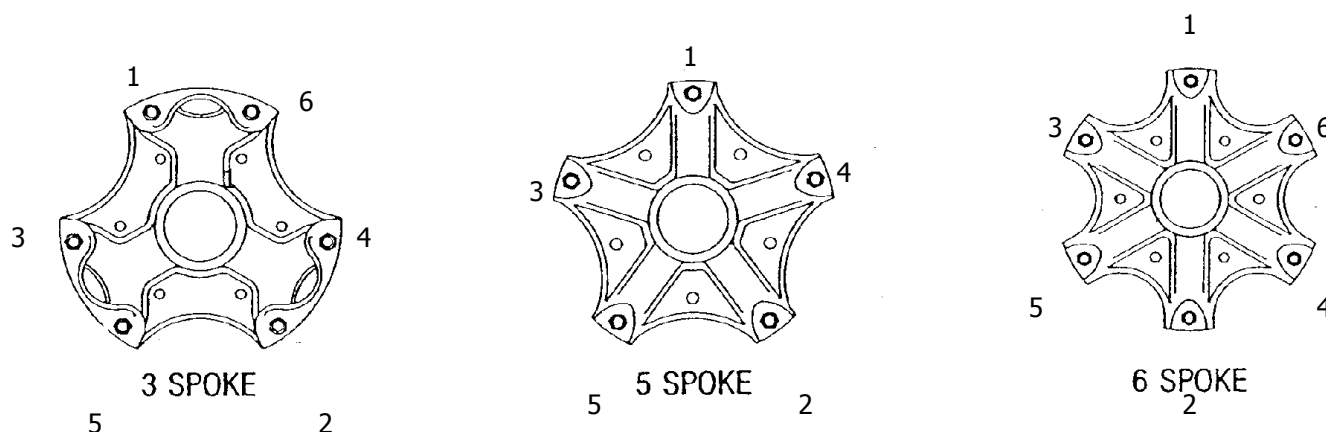

Figure 2 - 3,5,6 spoke tightening sequence
6. Tighten the rim clamp nuts down until they are snug, using the crisscross method as shown for 3, 5 and 6 spoke wheels. Always rotate the nut to be tightened to the top position as shown (Figure 2) to ensure even application of the clamp forces against the rim for proper alignment.